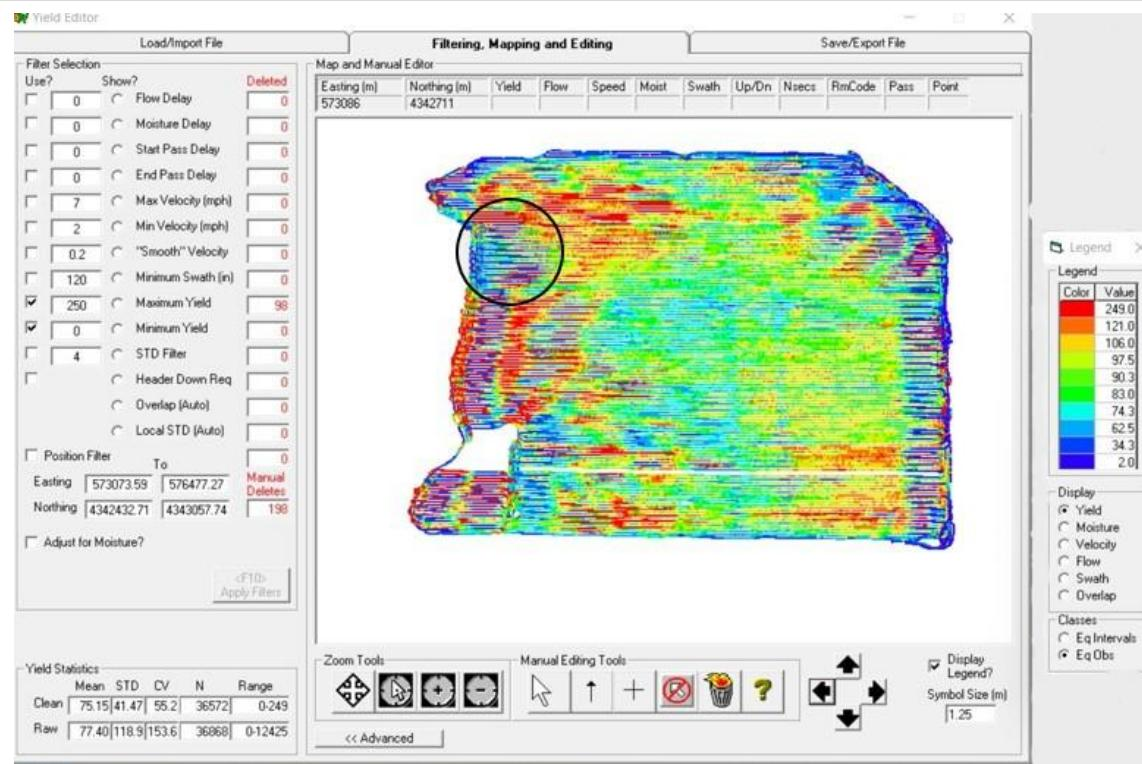

Figure 3a. This map is not clean. You can see sawtooth marks and abrupt transitions.
- 26.5 To determine modified delay values for red and yellow outlined plots, two options are available. Using values from another field with the same combine, crop, and year can provide an estimated value. Alternatively, you can manually alter flow delay values until the spatial variability is well defined (Figures 3a and 3b). Often, delay values are between 11 and 16 seconds.